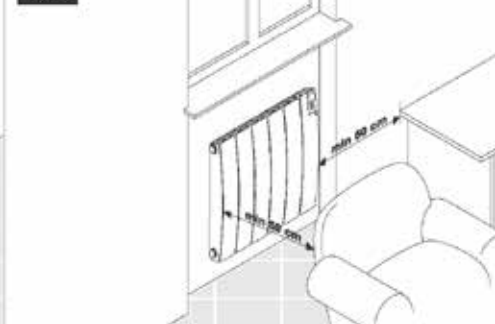

FIG. 5
- immediately below or in front of a power socket (fig. 5)